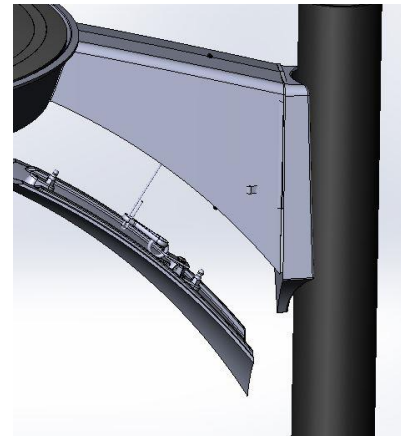
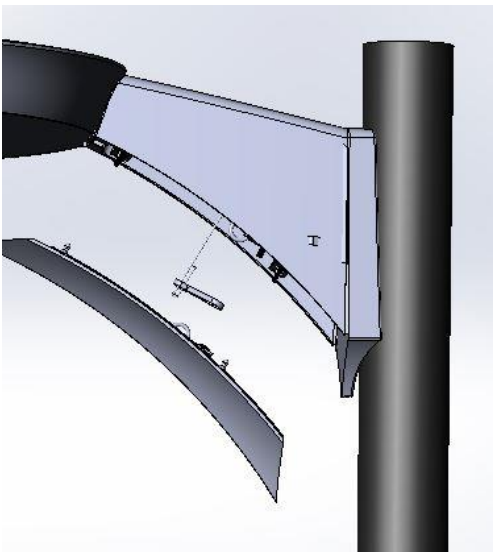

Fig.7
Fig.6
- Attach Door to luminaire (Fig. 6) and hook door to luminaire with aircraft cable (Fig. 7).